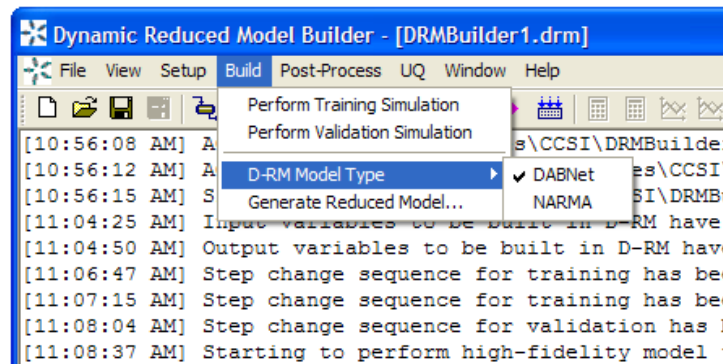

Figure 13: DABNet Submenu for Selecting a D-RM Model Type
16. Select DABNet as the D-RM model type by issuing the **Build → D-RM Model Type → DABNet** command and then confirming the “DABNet” pop-up submenu is checked as shown in Figure 13.